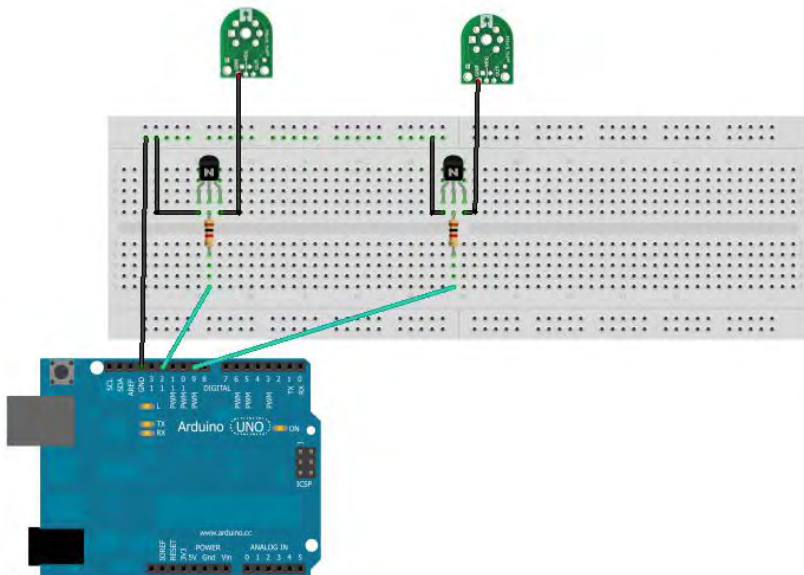

Figure 2-6. *Step three.*
3. Connect the COLLECTOR pin of the transistor to the GND pin of the sensor (Figure 2-6).